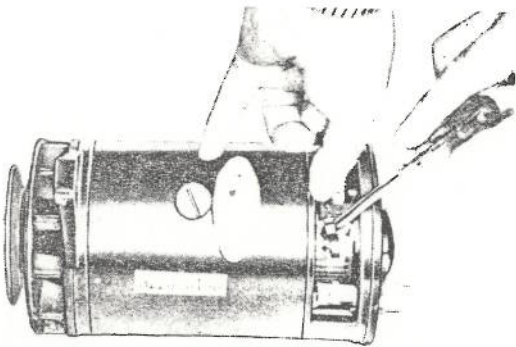

Fig. 10-43
(1) Remove the brush cover and then take out the carbon brushes. (See Fig. 10-43)